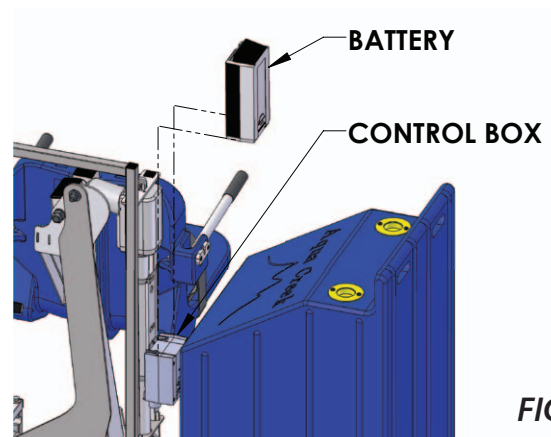

FIGURE 2
6. Mount the battery onto the control box on the lift and snap the battery into place. Listen for a 'click' when the battery is installed properly. There should be no gap between the battery and control box. See FIGURE 2 to the right. **NOTE: To extend battery life, always store battery on the charger when the lift is not in service.**